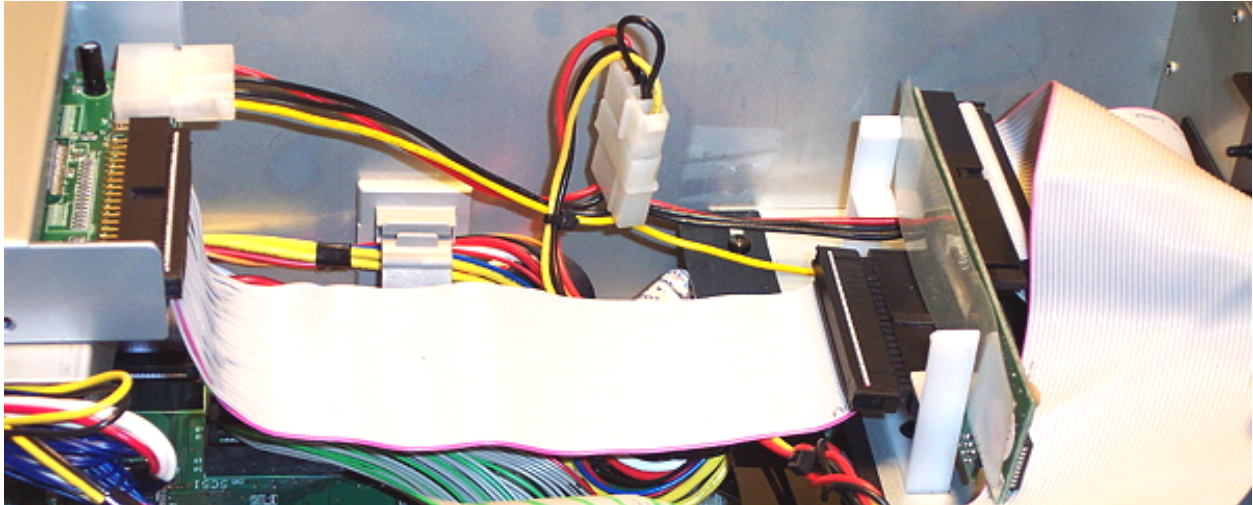

Figure 11. View of option (A) when completed.
- 8) The jumpers of the AEC-7720U must be set as follows: **JP2 is ON, JP4 is ON and on the JP1 (4) and (2) are ON while (1) is OFF**. This transforms the IDE drive to a SCSI drive with an ID of "6" and its terminator power (TP) and terminator enable (TE) in the active position.
- 9) Use the SCSI cable and connect the AEC-7720U to the ASIB1 board. Use the IDE-to-IDE adapter and connect the Ultra Digidrive to the AEC-7720U bridge (notches on top). Finally, use the **included** Y-type power adapter and connect the small female floppy-type connector to the AEC-7720U and the big female HD-type connector to the Ultra Digidrive. The male connector of the power adapter must be connected to the female power connector from step (7) above. This procedure supplies power from the EX5R to the bridge and the IDE drive.
- 10) Secure the AEC-7720U with some cable ties around the white plastic base inside the EX5R and check all the previous steps to insure that no mistakes took place during the installation. The AEC-7720U has a plastic insulating layer on one side. It should not be removed otherwise some **serious damage** to your synth will occur. Your EX5R should look as in Figure 11 when the upgrade is completed. Continue to step (11) if you chose this option.